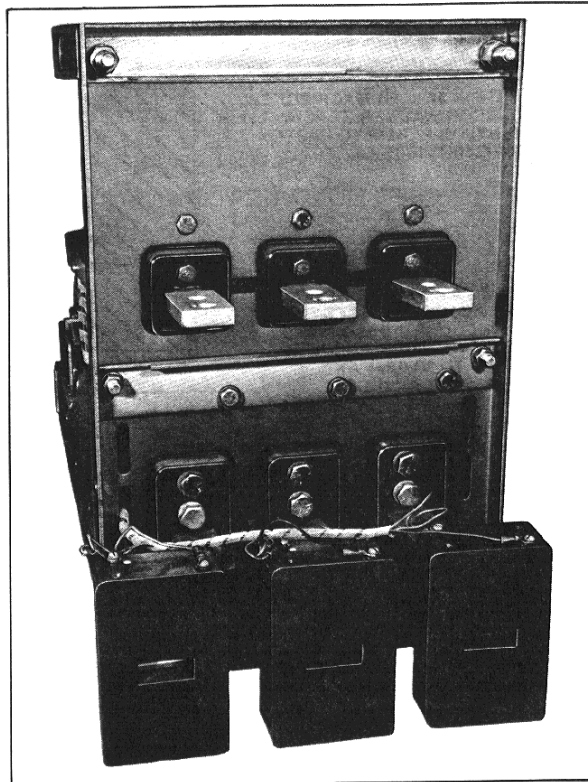
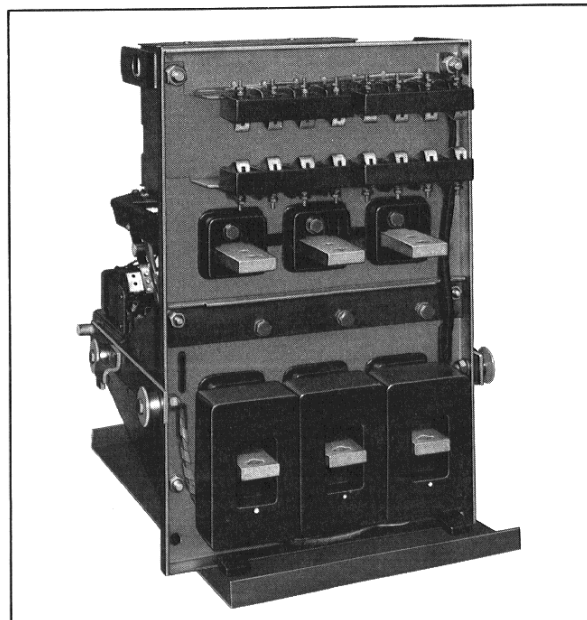

Fig. 20 Attaching Wiring Harness to Sensors DB-25 and DB-50
Fig. 21 DB-25 Sensors Properly Installed on Breaker Studs
6. Install grommet in lower slot on right side of breaker rear frame. Thread the sensor end of the harness through this grommet, Fig. 20.
7. Remove the finger clusters from the lower studs, wire the harness leads to the sensors, (Fig. 20). Attaching the wires can be accomplished easily by having the terminals of the sensor facing upwards. Once the leads are secured the sensors can be flipped 180° and placed on the lower studs, (Fig. 21), now reinstall the finger clusters. Secure the wiring harness to the right hand amptector mounting bracket using nylon clamp and .164 hardware.
7. Remove the finger clusters from the lower studs, and wire the harness leads to the sensors. Attaching the wires can be accomplished easily by having the terminals of the sensors facing upwards. Once the leads are secured the sensors can be flipped 180° and placed on the lower studs, (similar to Fig. 20). Now reinstall the finger clusters. Secure the wiring harness to the right hand arm which has an existing hole using the .164 hardware and nylon clamp.